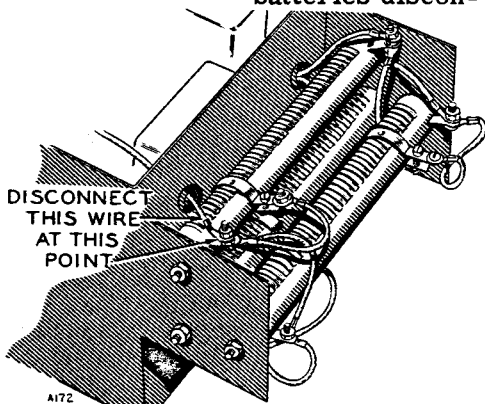

Fig. 14 DC Output Disconnect Point
**OPERATING WITH BATTERIES DISCONNECTED.** - If operation with batteries disconnected becomes necessary on a plant designed for electric starting, the generator dc output must be disconnected. Disconnect the single wire (marked "B" on some models) which connects at one end of the three charge circuit resistors, Fig. 14. Disconnect also the wire at the electric carburetor choke.